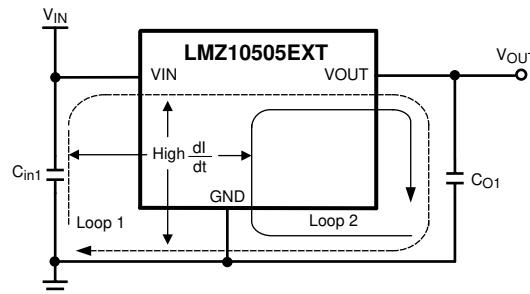

Figure 29. Critical Current Loops to Minimize
From an EMI reduction standpoint, it is imperative to minimize the high di/dt current paths. The high current that does not overlap contains high di/dt , see Figure 29. Therefore physically place input capacitor (C_{int1}) as close as possible to the LMZ10505EXT VIN pin and GND exposed pad to avoid observable high-frequency noise on the output pin. This will minimize the high di/dt area and reduce radiated EMI. Additionally, grounding for both the input and output capacitor should consist of a localized top side plane that connects to the GND exposed pad (EP).